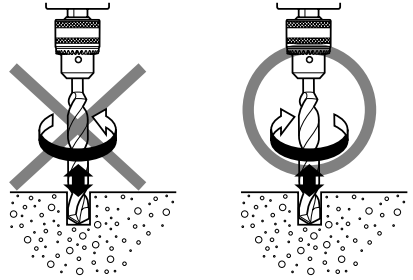

Fig. 1
5. When boring concrete or similar hard materials in IMPACT mode, push the R-side of the push button. (Fig. 1)